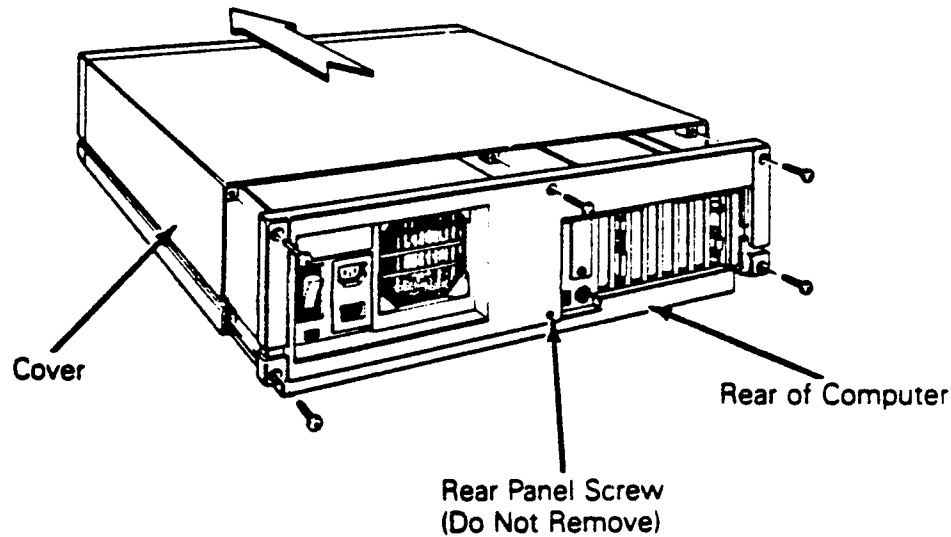

Figure 1-2. Computer Cover Removal/Replacement
5. At the rear of the computer, remove the five screws that secure the cover (see Figure 1-2). Note that the sixth screw (at the bottom center of the rear panel) need not be removed.